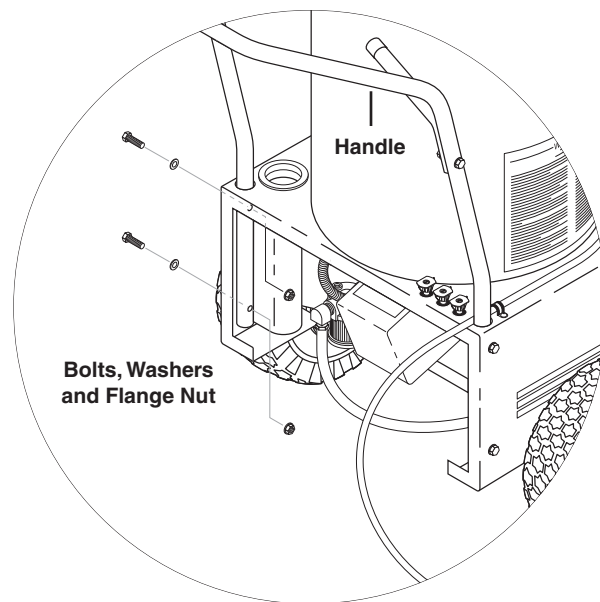

Figure 3 - Handle Installation
2. Insert the handle through the holes in the chassis as shown in **Figure 3**. Use the bolts, washers and nuts from envelope to secure the handle to the chassis.